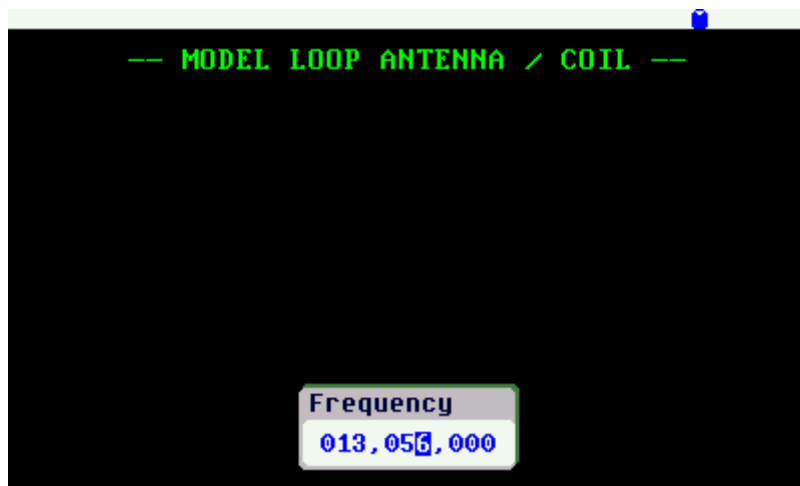

Figure 7, Setting operating frequency
- Step 6. Set the frequency according the desired operating frequency for this antenna (13.56 MHz) (Figure 7)